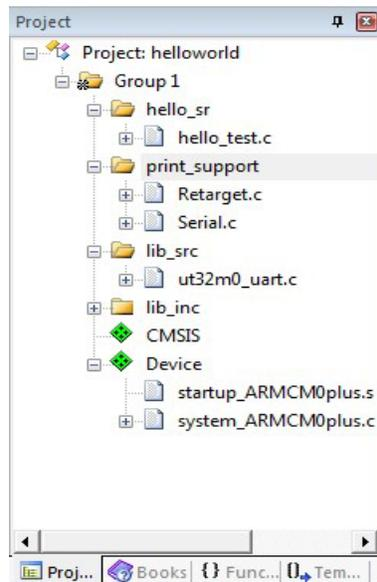

Figure 6: Add Source and Include Files
- Right-click on **Target1** and select **Add Group...** to create groups for source and include files for Frontgrade's Standard Peripheral Library. Add sources and include files to their respective directories, see **Figure 6**